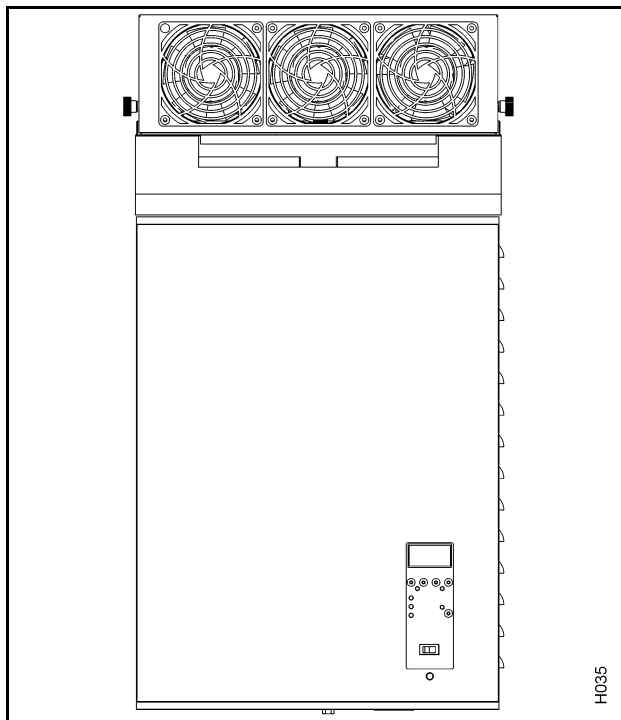
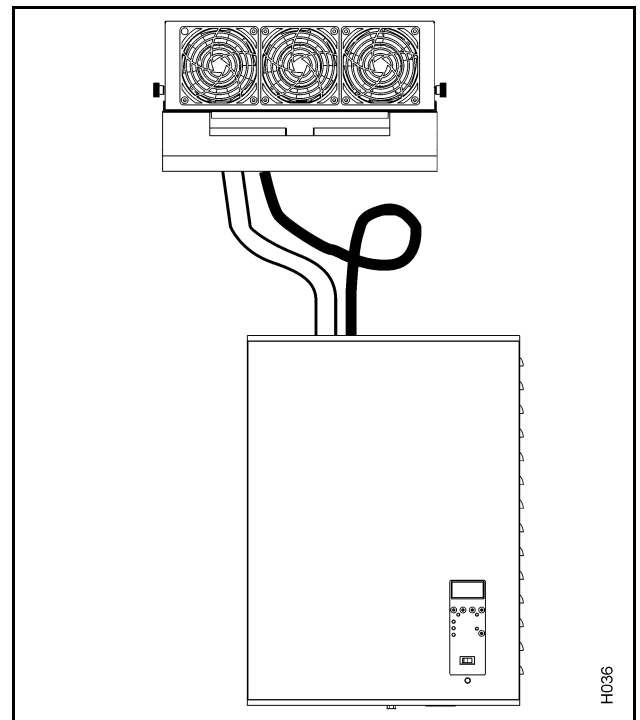

Figure 27. NH Series Humidifier With Built-On Blower Pack
Figure 28. NH Series Remote Mounted Blower Pack
- (1) Optional blower packs are used to distribute steam to localized areas such as computer rooms or in areas that do not have a built-in air distribution system.
- (2) Blower packs are available integrally mounted on humidifier BOBP, (See Figure 27.) or detached and field-piped and wired to humidifier RMBP. (See Figure 28.)
- (3) Blower packs consist of a matching powder coated steel cabinet containing: three axial blowers with finger guards powered by 120 VAC or line voltage humidifiers, with built-in multi-tap transformer (when necessary), fuse, high temperature plastic distributor with stainless steel lid, horizontal and vertical adjustment knobs for directional control, built-in thermostat to activate blowers, speed control rocker switch and safety loop relay.
- (4) Refer to Table 22 for ceiling and frontal clearances required for blower packs. Dimensions apply to both built-on and remote-mounted versions of blower packs.
- (5) Mount remote blower pack(s) using factory supplied wall mounting bracket with clearances as recommended in Table 22.